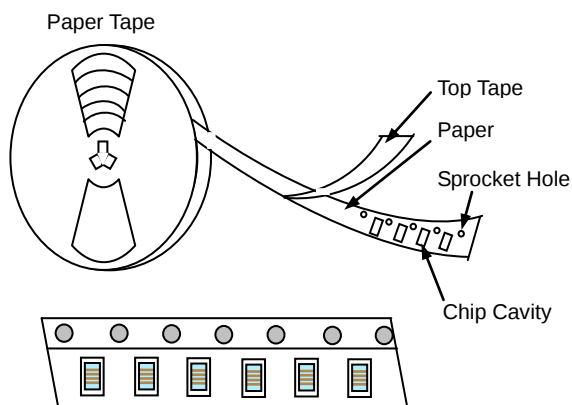

Fig. 6.1-1
- Tape carrier packaging are specified in attached figure **Fig.6.1-1~4**